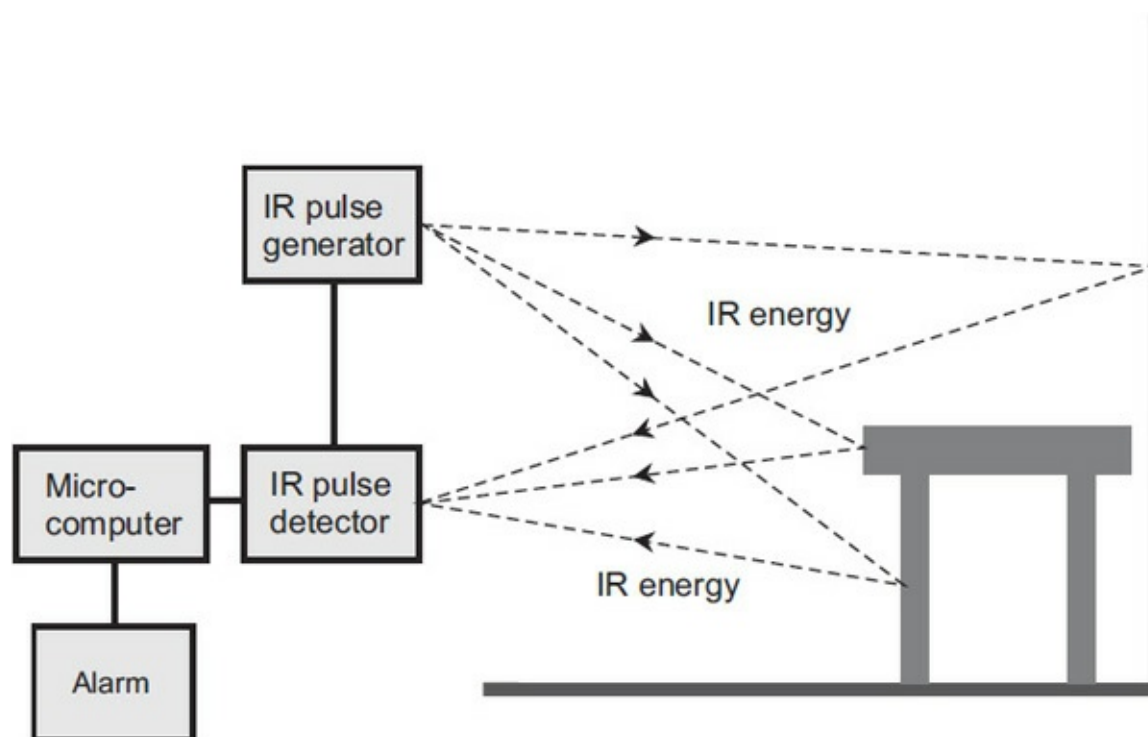

FIGURE 7-8 Functional diagram of an infrared (IR) motion detector.
Many popular intrusion alarm devices make use of infrared (IR) motion-detection transducers. Two or three wide-angle IR pulses are transmitted at regular intervals; these pulses cover most of the room in which the device is installed. A receiving transducer picks up the returned IR energy, normally reflected from the walls, the floor, the ceiling, and the furniture, as shown in Fig. 7-8. The intensity of the received pulses is measured and recorded by a microprocessor. If anything in the room changes position, the intensity of the received energy will vary, and the resulting signal will set off an alarm. These devices consume very little power in regular operation, so batteries can serve as the power source. A typical alarm system of this kind uses six or eight small electrochemical cells, which will operate the device continuously for several months.